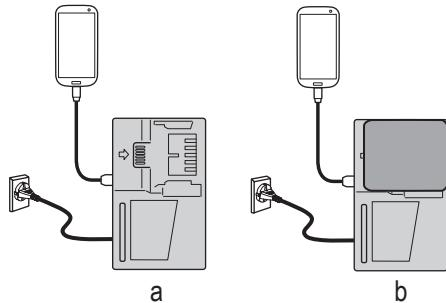

Fig. 39
- Charging a USB device from a electrical outlet. (**Fig. 39-a**)
- Charging a USB device and battery from an electrical outlet. (**Fig. 39-b**)